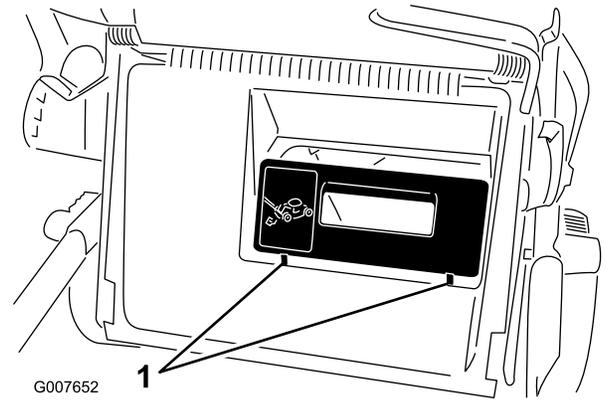

Figure 30
**Important:** Ensure that the rear discharge plug is securely in place. Lift up the discharge deflector and look for 2 tabs in front of the plug (Figure 30). If you do not see them, firmly push the plug in until it snaps into place.